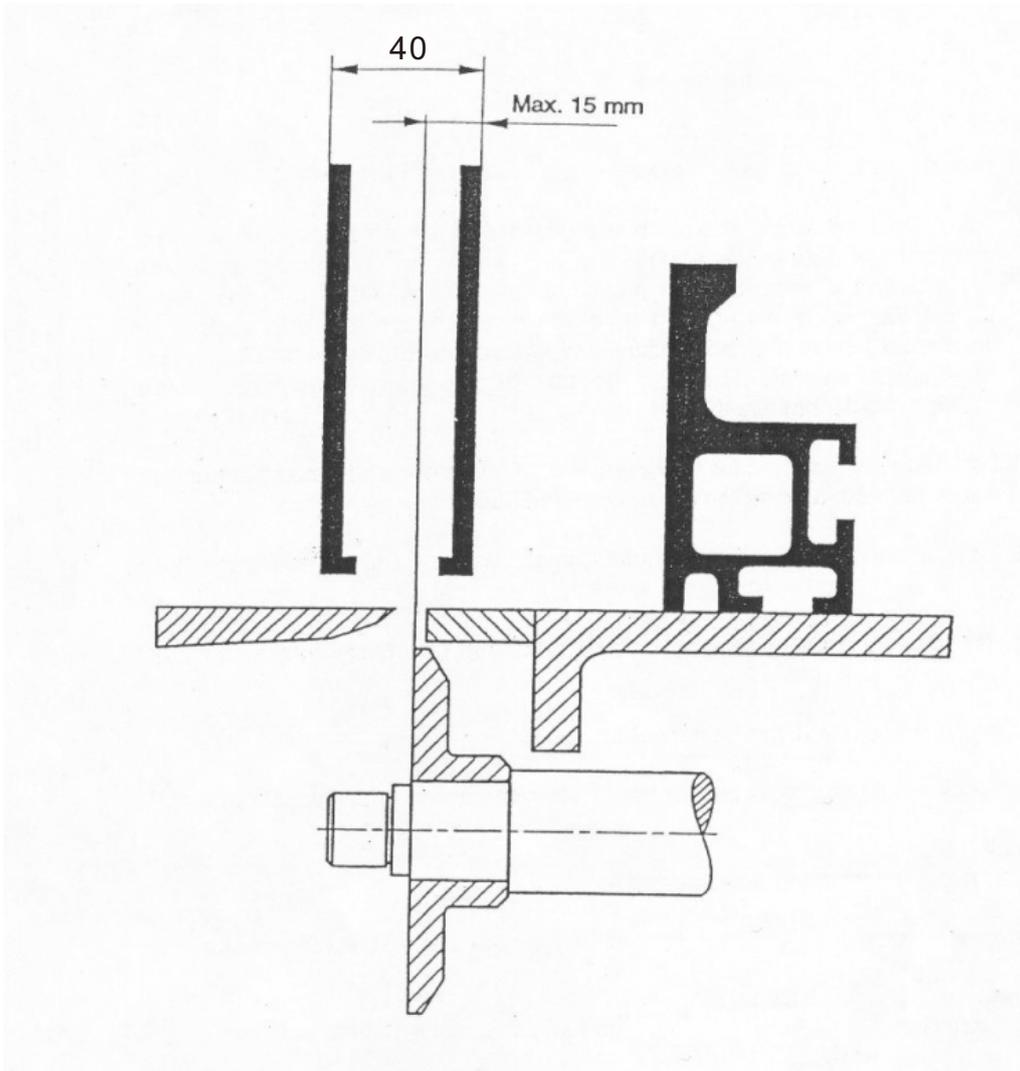

Fig.2-2-5-7
6. Adjust nuts on the arrow parts if dust collector does not parallel with saw blade. To adjust, loosen screw A and then loosen screw B. Once adjustment has been done, lock screw B and then lock screw A. (Fig.2-2-5-6)
- ★ Please keep safe distance between the safety guard and the saw (as Fig. 2-2-5-7) to avoid the saw and the guard interfering each other.